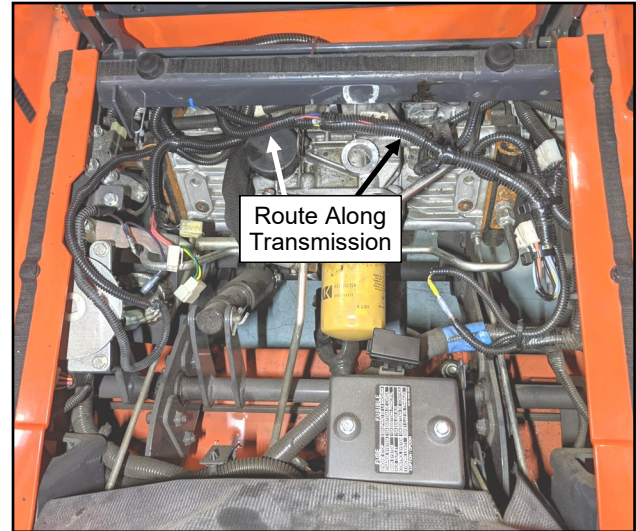

Fig. 7.15 (Route Wiring)
7.15 See fig. 7.15. Route the remaining section of the harness with the yellow wire and bullet connector forward from the battery area over the ROPS and up under the seat just like the regulator harness in step 7.4. The harness should run across the top of the transmission along the existing OEM harness and end on the left side of the vehicle.